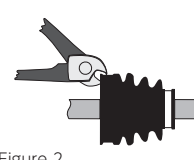

Figure 2.
- After cutting the band, the boot can be cut without having to change tools. (Figure 2)